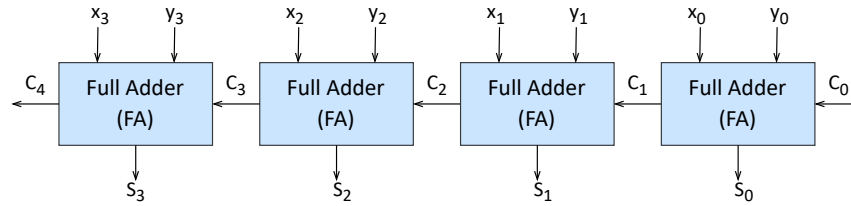

Figure 4: Design of the 4-bit Ripple-Carry Adder
3. Using 4 instances of the full adder, design and implement a 4-bit ripple carry adder (see Figure 4) with the following ports